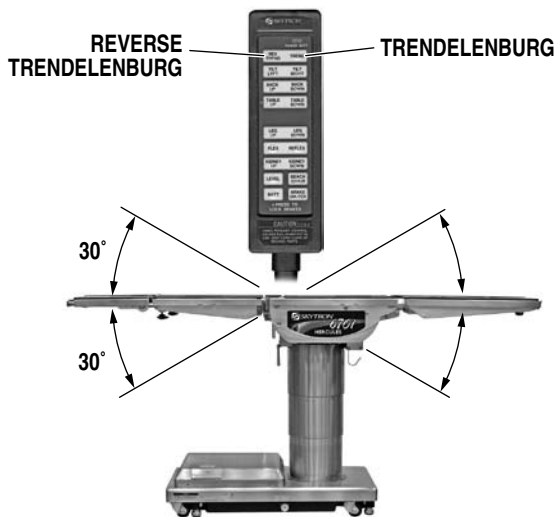

Figure 2-6. Trendelenburg Positioning
b. Trendelenburg. To place the table in a Trendelenburg (head down) position, press the TREND button (figure 2-6). To place the table in a reverse Trendelenburg (head up) position, press the REV TREND button. Trendelenburg positioning of up to 30° may be obtained if lateral tilt positioning is less than 20°.